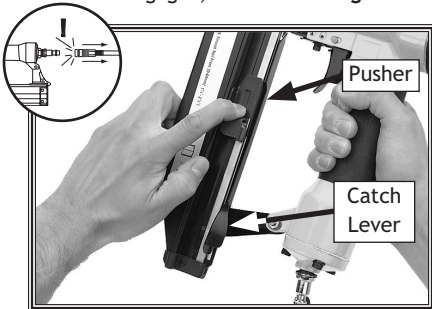

Figure 2. Sliding magazine pusher back to engage catch lever.
2. Grip the nailer firmly, and pull the magazine pusher back until the catch lever engages, as shown in **Figure 2**.